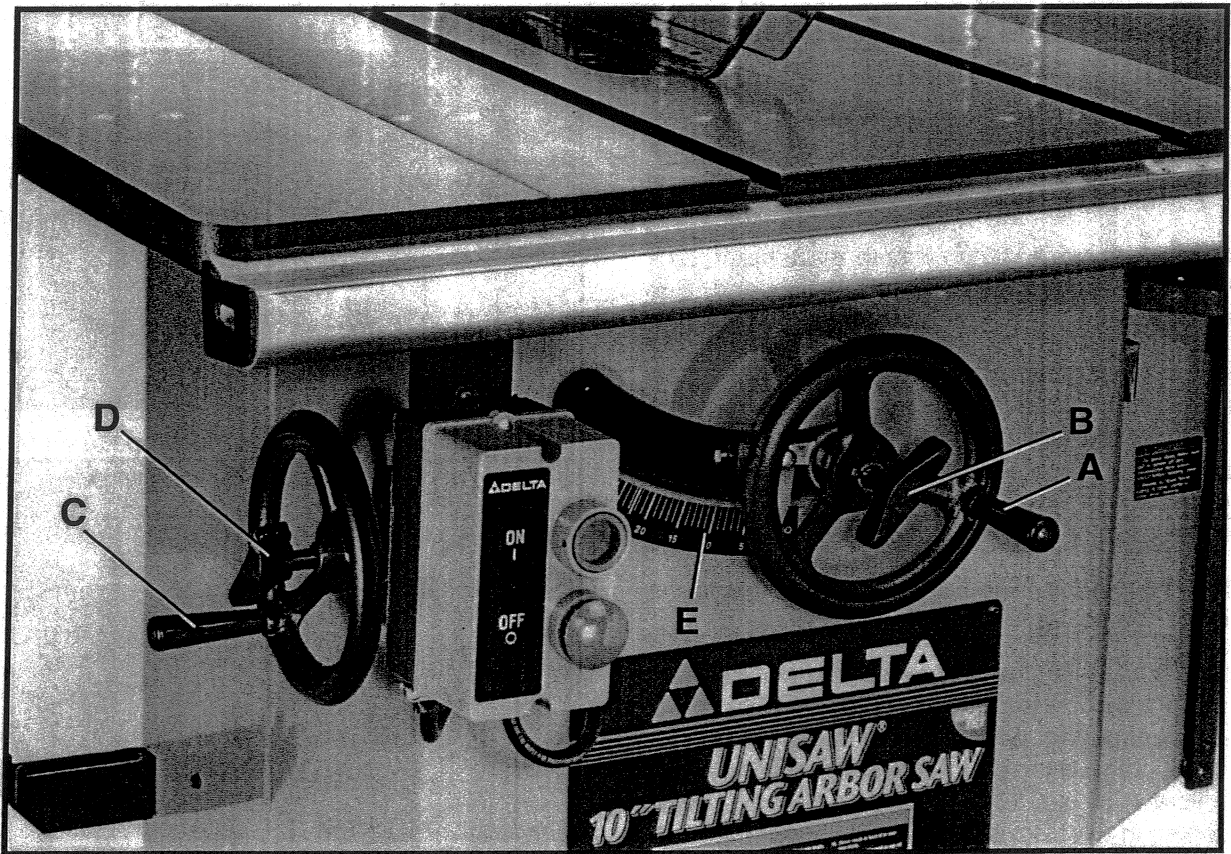

Fig. 64
The saw blade is raised and lowered with the front handwheel (A) Fig. 64. With the exception of hollow ground blades, the blade should be raised 1/8" to 1/4" above the top surface of the material being cut. With hollow ground blades, the blade should be raised the maximum to provide greater clearance. To raise the saw blade, loosen lock knob (B) Fig. 64, and turn the handwheel (A), clockwise. To lower the saw blade, turn handwheel (A) counterclockwise.
The saw blade is locked at any height by turning the lock knob (B) Fig. 64, clockwise. Due to the wedge action of this locking device, only a small amount of force is required to lock the blade raising mechanism securely. Any added force merely puts unnecessary strain on the locking device. Limit stops for raising or lowering are permanently built into the mechanism and need no further adjustment.
To tilt the saw blade to the desired angle, loosen lock knob (D) Fig. 64, and turn handwheel (C). A pointer indicates the angle of tilt on scale (E), which is marked in one degree increments. To lock the saw blade in the desired angle of tilt, tighten lock knob (D).